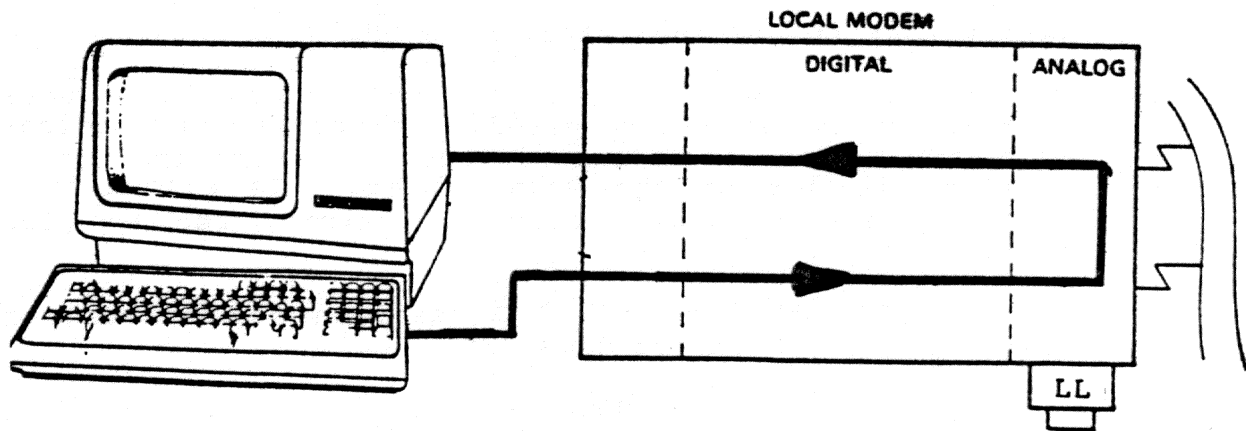

Figure 4-4 Local Analog Loopback Test
4.3.2 Local Analog Loopback Test (Figure 4-4)